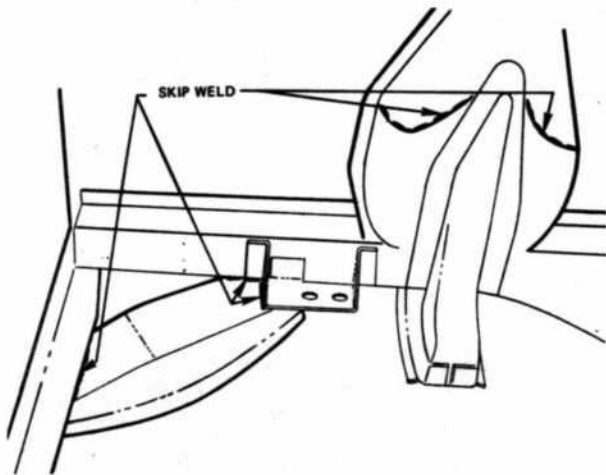

FIGURE 26. Front Structure Welding Reinforcement.
The front structure is further rigidized and strengthened by skip welding or brazing in the following areas, and as shown in Figure 26.
- 4) The rear of the inner fender to the toe board. These add support to the roll cage front base plates. (Not shown in Figure 26.)